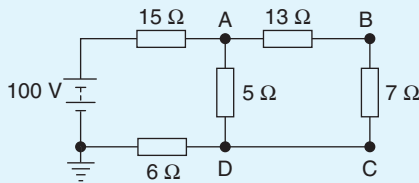

Figure 5.51
1. For the circuit of Fig. 5.51, calculate (a) the absolute voltage at points A, B and C, (b) the voltage at A relative to B and C, and (c) the voltage at D relative to B and A.